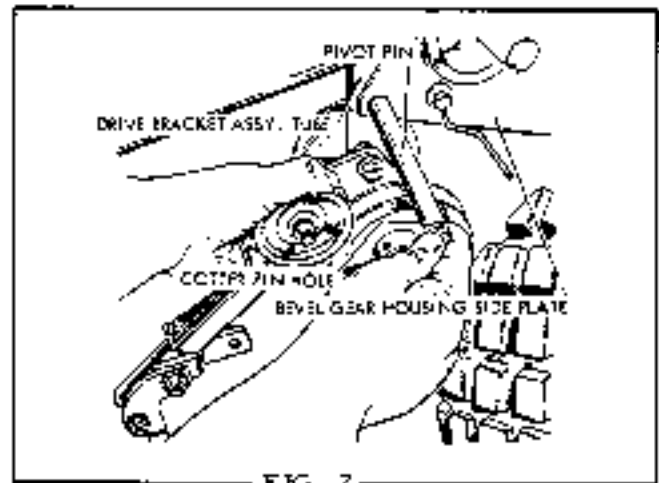
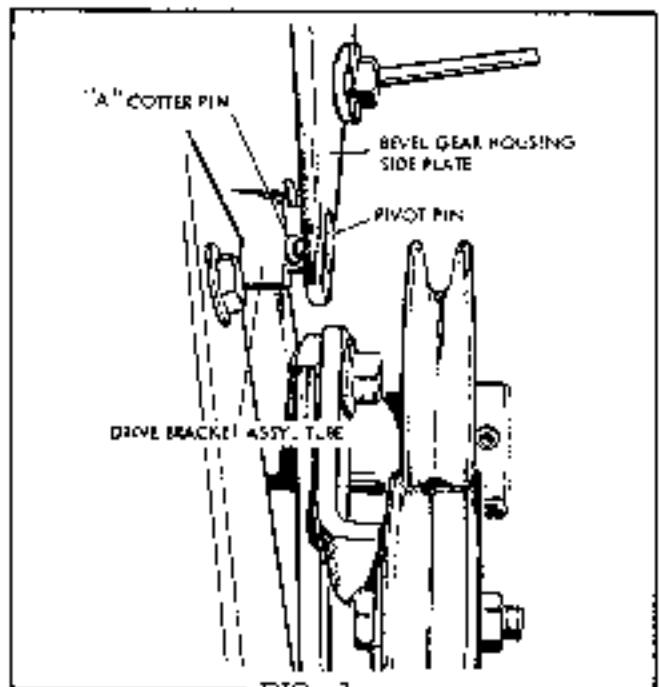

FIG. 2
FIG. 3
3. Holding the P.T.O. assembly in L.H. (Fig. 2) position the tube of the drive bracket assembly between the bevel gear housing side plates. Align the holes in the side plates with the hole in drive bracket assembly tube and insert pivot pin through holes in side plates and drive bracket assembly tube, so the cotter key hole in pin lines up at "A". (Fig. 3)
6. Attach the belt guard to the guard support as shown in Fig. 3. Allow approximately $3/16$ " clearance between belt and guard.